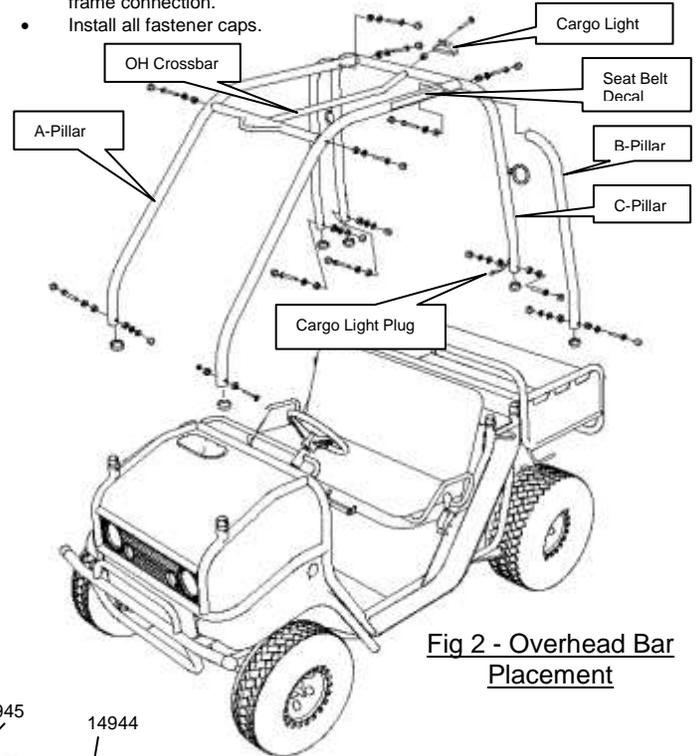

Fig 2 - Overhead Bar Placement
### III. Overhead Bar Installation (Figs 2 and 3)
- Locate the **C-Pillar** and fasteners: (2) 14697, (4) 14837, (4) 14944, and (2) 14088. (Reference Fastener Illustration on page 2.)
- Locate the rubber connector seals (6) 14941, and rubber fastener caps (16) 14945 packaged in the customer hardware kit.
- Slip the connector seal on the ends of each overhead bar where it will connect to the main frame (ref Figs 2 and 3)
- Locate the **A-Pillars** and fasteners: (4) 14697, (6) 14837, (6) 14944, and (2) 14088. Install the connector seals as shown on the diagram below.
- Locate the **Overhead Cross Bar** and fasteners: (3) 14697, (3) 14837, (2) 14944.
- Locate the **B-Pillars** and fasteners: (4) 14697, (6) 14837, (6) 14944, and (2) 14088. (Note: *B-Pillars are universal RH/LH*)